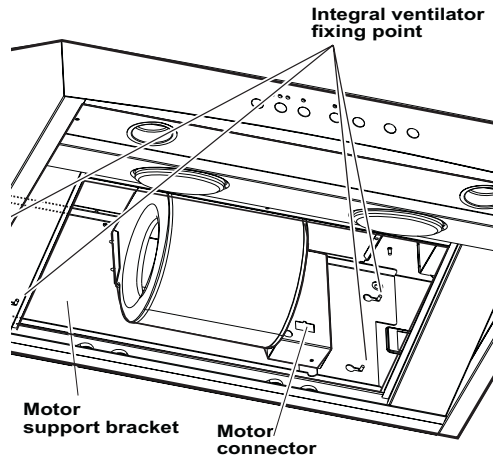
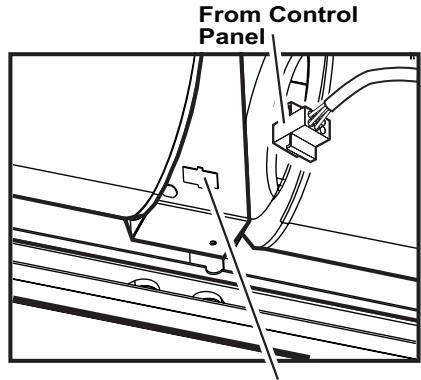

Figure 9
Figure 10 Motor connector VTN 420 or VTN 620
INTEGRAL VENTILATOR INSTALLATION (Models VTN420B or VTN620B) (see figure 9)
1. Connect the Integral Ventilator moxle plug connector to the connector present inside the hood as shown in **Figure 9** or **Figure 10**.